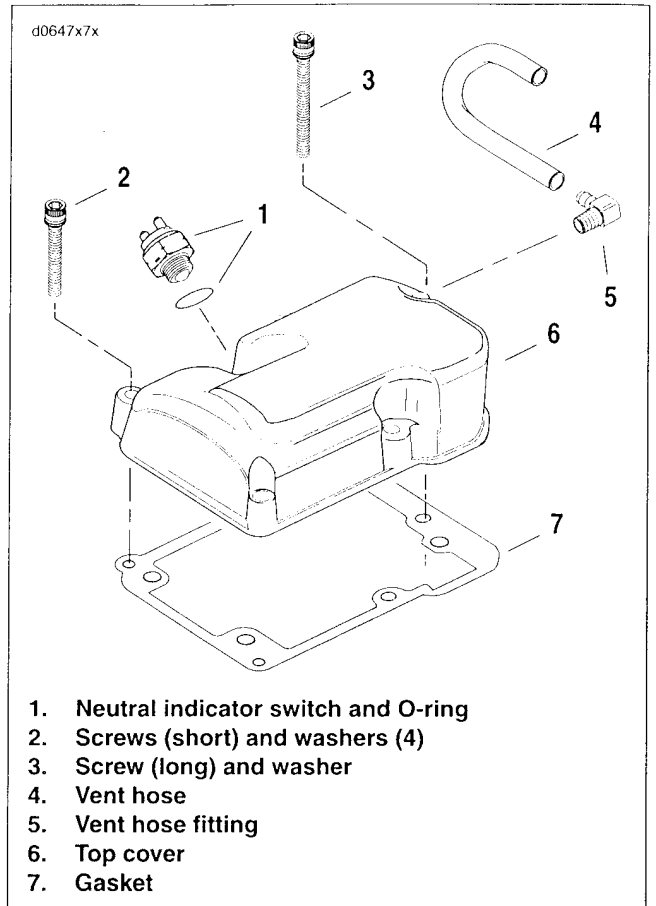
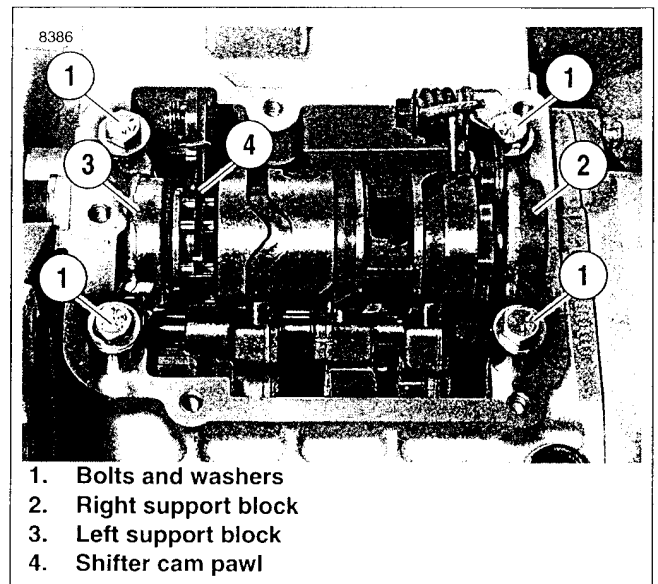

Figure 7-3. Cover Assembly
Figure 7-4. Support Block Fasteners
4. See Figure 7-3. Disconnect neutral indicator switch (1). See 8.29 NEUTRAL SWITCH.
5. Remove vent hose (4) from fitting (5) on cover to provide additional clearance for removal if needed.
- b. Remove the top cover (6) and cover gasket (7).
7. See Figure 7-4. Remove four bolts and washers (1) to free the right (2) and left (3) support blocks.
8. Lift shifter cam pawl (4) over cam pins to free assembly.
4. See Figure 7-3. Install the top cover (6) with a **new** gasket (7) placing long screw (3) next to vent hose fitting (5). Tighten screws (2, 3) to 84-108 in-lbs (9.5-12.2 Nm).